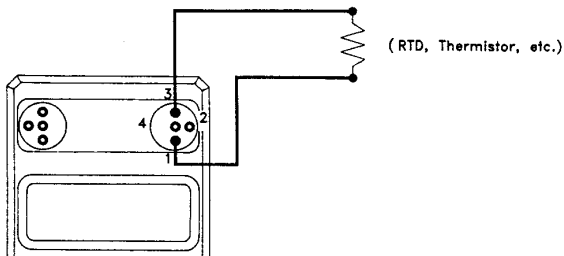

Figure 4. 2-Wire Resistance Measurement
1. Connect a sensor or unknown resistance to the instrument as shown in Figures 4, 5, or 6.